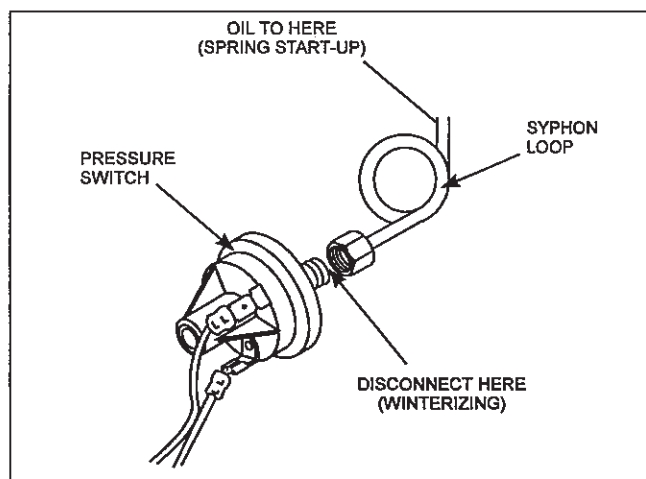

Figure 21. Pressure switch copper tubing.
8. Disconnect the pressure switch copper tubing (see Figure 21).
1. Attach the copper tubing to the pressure switch and fill the loop with SAE 50, non-detergent oil (see Figure 21).